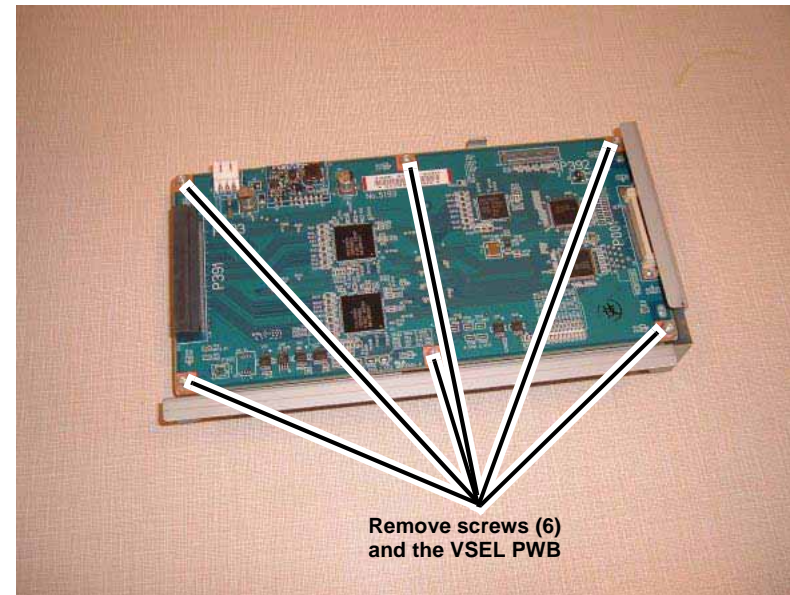

Figure 5 Removing the VSEL PWB
6. Remove the VSEL PWB (Figure 5).